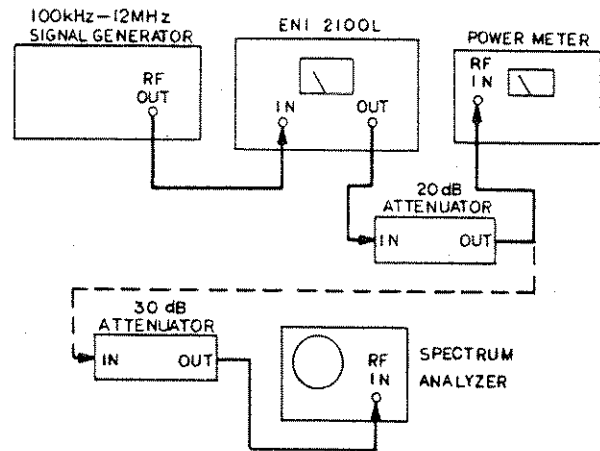

Figure 4-4.
- Reconnect the equipment as shown in Figure 4-4, then proceed as follows: